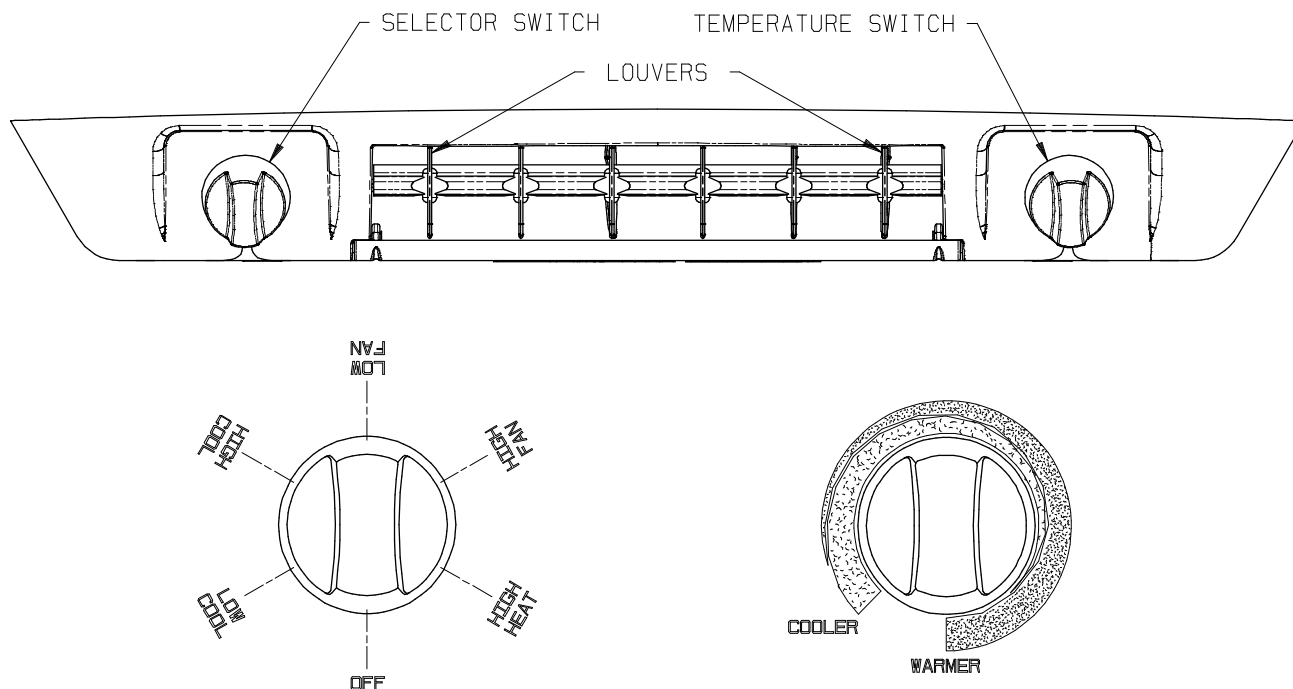

FIGURE 1
A. The Selector Switch – The selector switch determines which mode of operation the heat pump will be in. By rotating the selector switch, the operator can obtain any system function desired. System functions vary depending upon options of both the roof top unit and ceiling assembly. Figure 1 shows selector switch location and lists all available functions by model.
B. The Thermostat (temperature control) – The thermostat regulates the “ON” and “OFF” temperature setting at which the compressor will operate (See Figure 1).
I. For Cooling Operation (Refer to Figure 1, page 3).
IV. For Heating Operation (Refer to Figure 1, page 3).
V. For Air Circulation Only (Refer to Figure 1, page 3).